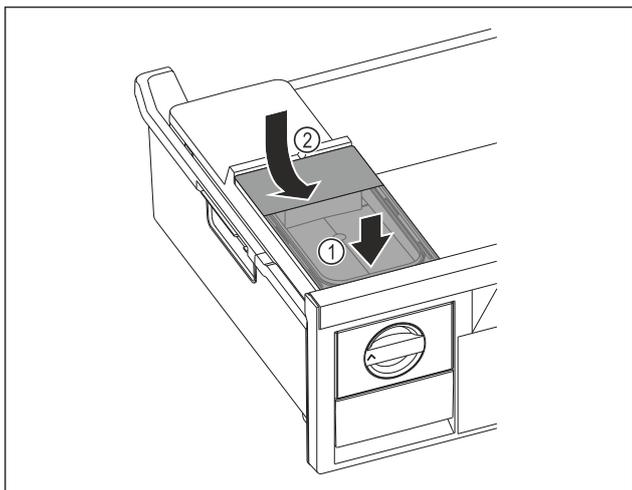

Fig. 157
- ▶ Position the water tank at the front. Fig. 157 (1)
- ▶ Lower the water tank at the rear. Fig. 157 (2)